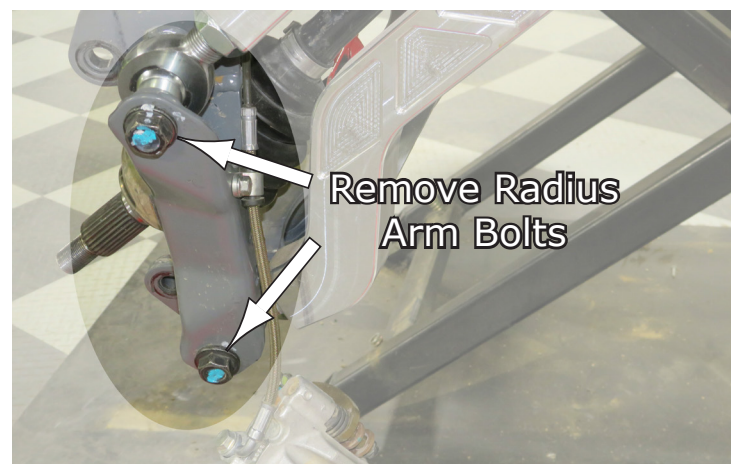

Fig.7
7. Now remove the Radius Arm bolts shown in **Fig.7**, and remove Brake Line Clamps shown in **Fig.8**.